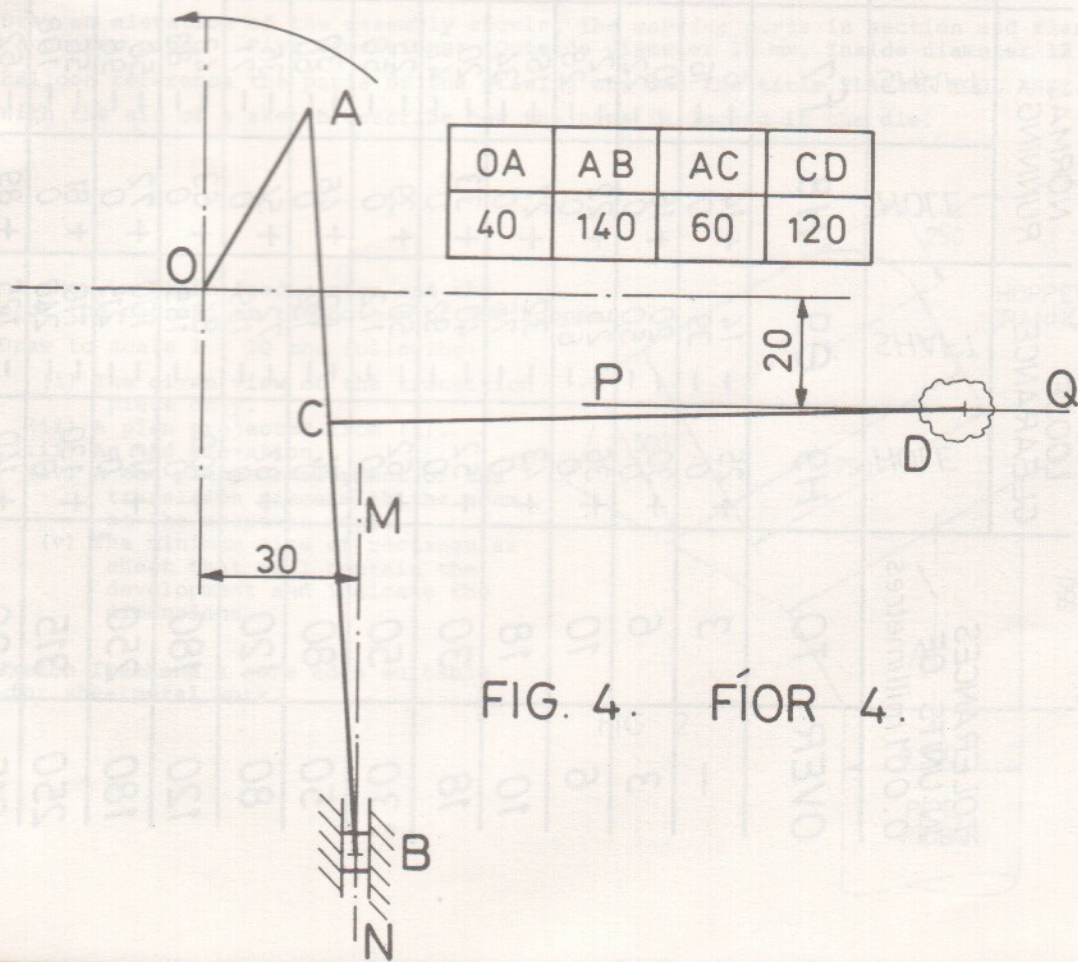

FIG. 4. FÍOR 4.
- (b) The mechanism for a ram of an impact extrusion machine is shown in Fig. 4. The crank OA rotates at uniform angular velocity about O. The ram D is constrained to move along the line PQ while the guide B moves along MN.